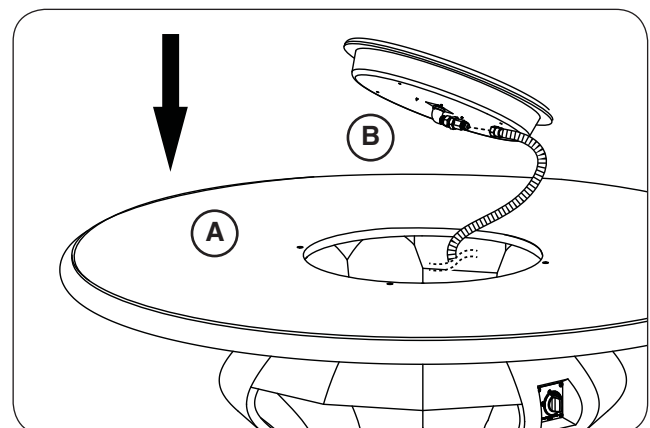

Fig. 24-4 Place burner and connect flex
6. Drop the burner assembly into the opening in the center of the firetable top (see Fig. 24-4, A).
7. Locate the flex connector (marked OUT) that is coming off the valve assembly. Route it to the connection found on the underside of the burner assembly and connect. Tighten securely. See Fig. 24-4, B.